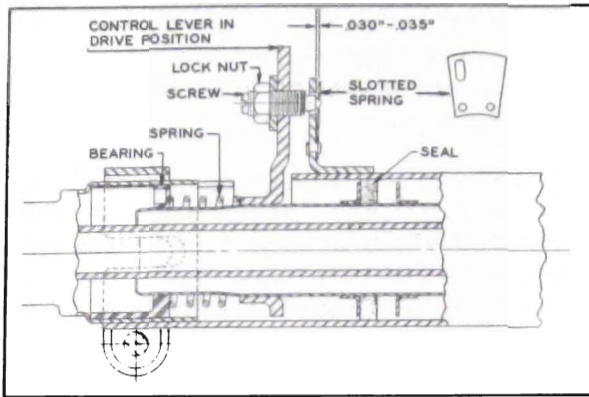

Figure 5-27—Lower Lever and Stop Plate
1. With lower shift rod disconnected from idler lever and manual control lever in Drive position, adjust the stop screw into the slot of the spring until the spring is deflected .030". See figure 5-27.
5. Park car on ramp or other grade with control lever in Parking (P) position to deter-